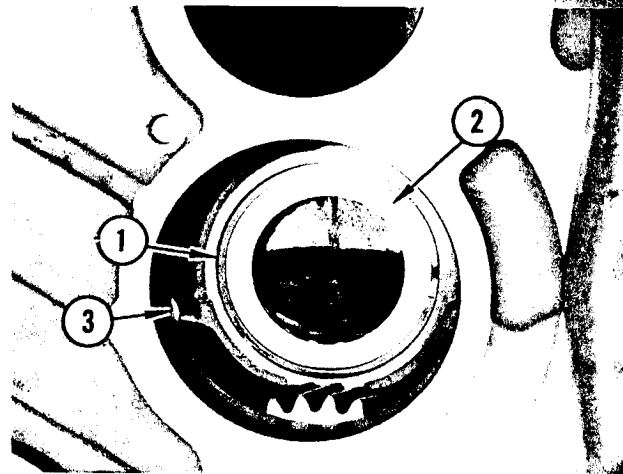

FIGURE 48. HOUSING BEARING REMOVAL
Refer to Figure 48. Remove retainer ring (1). Remove outboard bearing (2) from bore in housing. Item (3) is seal retainer lock.